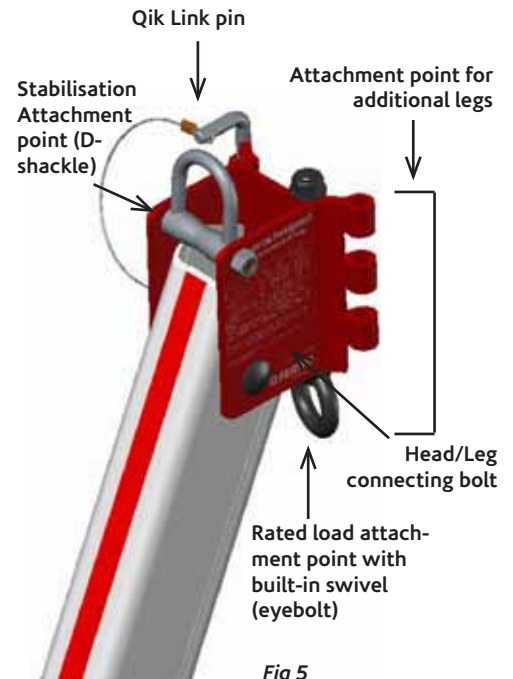

Fig 5
2. Inspect the leg pin (Fig 5) ensuring smooth operation. When button is depressed, small ball stoppers on other end of pin should release.
### Standard Leg (Fig 5)